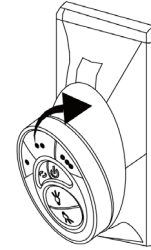

Fig. 24
Step 1. To place the transmitter in the wall plate, put the bottom end in first and then press the top into the wall plate. The transmitter is now held in the wall plate and will function from here. (Fig.24)